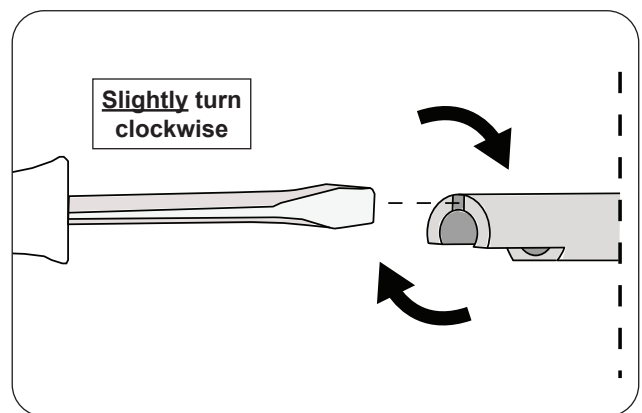

Fig. 42-2 Stem adjustment
2. Insert a flathead screwdriver into the split portion of the stem and **GENTLY** turn the screwdriver clockwise. **Be cautious!** Only a slight turn is needed as the stem is flexible. See Fig. 42-2.